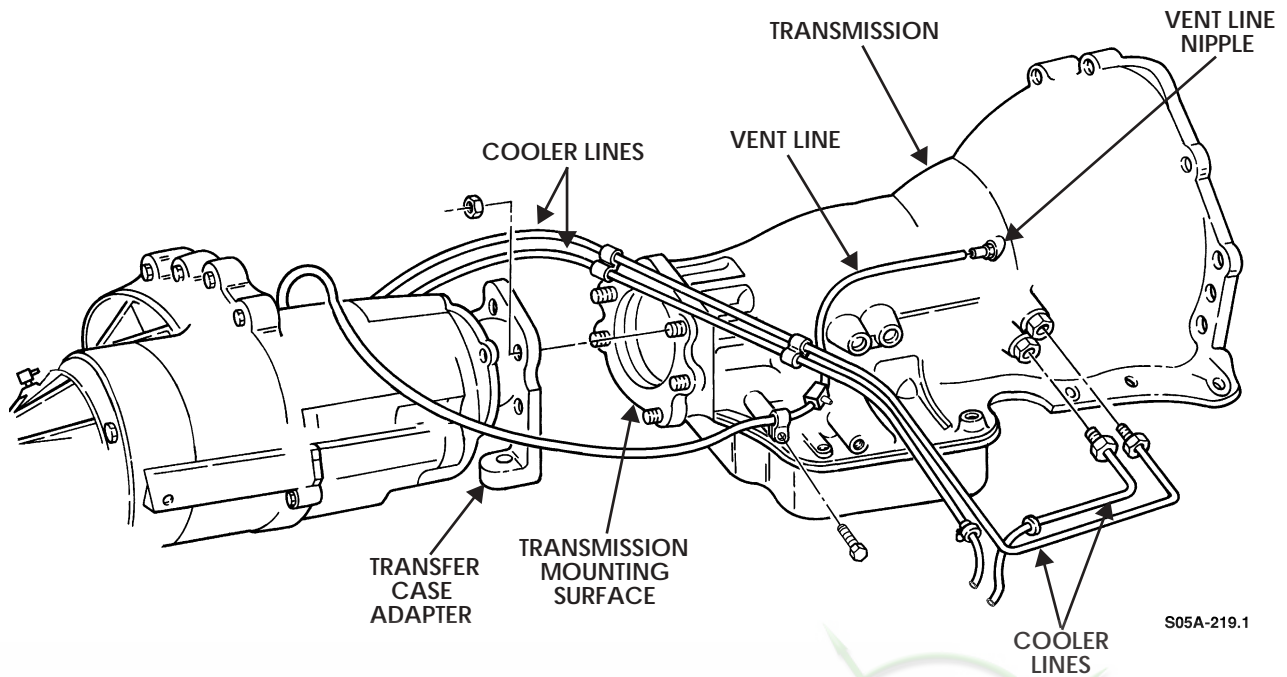

Figure 5-61: Transmission/Transfer Case Assembly
2. Disconnect two cooler lines from transmission (Figure 5-61).
1. Apply flange sealant to transmission mounting surface (Figure 5-61).